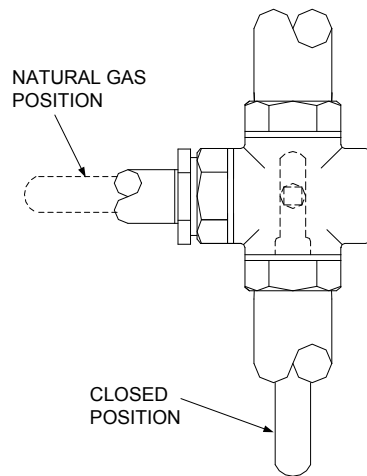

Figure 6.4
4. For dual fuel units, place the diverter valve in the closed position (see Fig. 6.4).
8. For dual fuel units, place the diverter valve in the Natural Gas position (see Fig. 6.4).
11. For dual fuel units, place the diverter valve in the closed position (see Fig. 6.4).